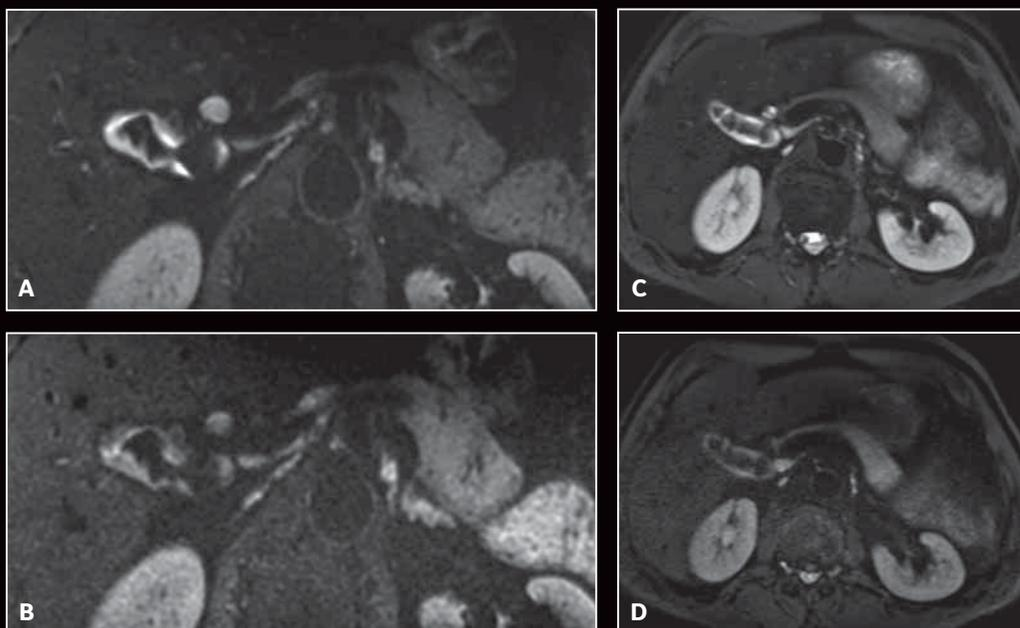

Figure 3. Axial FOCUS DWI at (A) b50 and (B) b500. Axial MUSE DWI (C) b50 and (D) b800.
Figure 3. Left-hand squeezing task results for (A) Gradient Echo fMRI, (B) Spin Echo fMRI and (C) Silent fMRI for a single subject overlaid on an anatomical T1 image. As expected we're seeing spatial activations in the contralateral primary motor cortex in each of the methods. However, Spin Echo EPI and Silent fMRI show more specific localization to the cortex than Gradient Echo EPI.